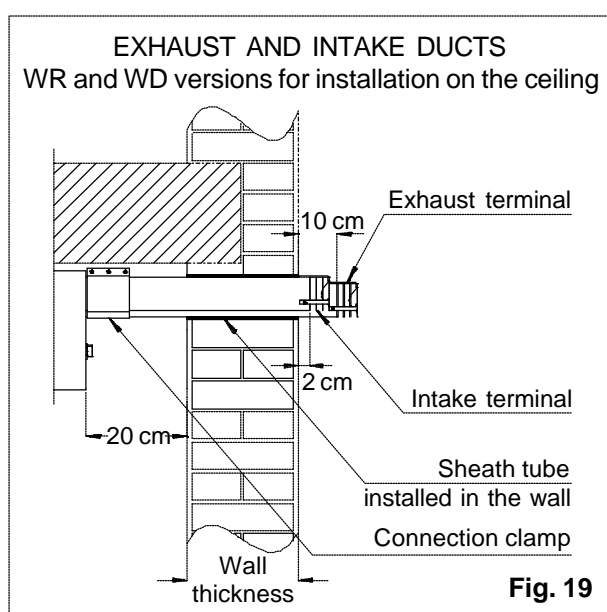

Fig. 19
- Measure the thickness of the wall where the ducts are to pass through. Verify that the ducts are long enough, according to what is shown in *fig. 19*.
- c) Check that the outside terminals are in the correct corresponding position (*fig. 19*) and touch up the plastering around the holes through which the ducts pass..